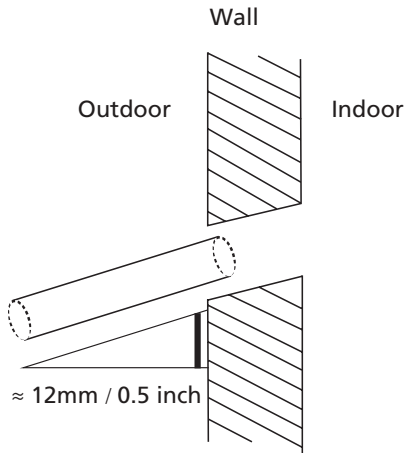

Fig. 6.4
- Using a 65-mm (2.5") core drill, drill a hole in the wall. Make sure that the hole is drilled at a slight downward angle, so that the outdoor end of the hole is lower than the indoor end by about 12mm (0.5"). This will ensure proper water drainage (See Fig. 6.4). Place the protective wall cuff in the hole. This protects the edges of the hole and will help seal it once you finish installation.